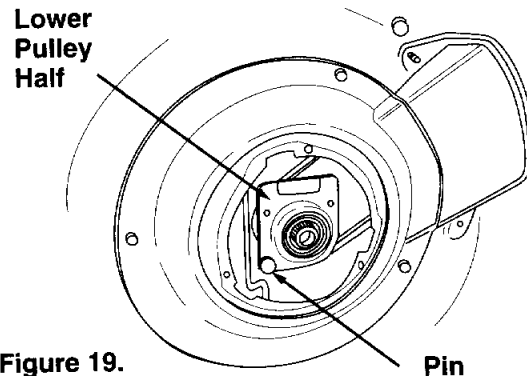

Figure 19.
8. Rotate the lower pulley half 90° clockwise (see figure 19) and remove from mower. Remove the belt from around the crankshaft.